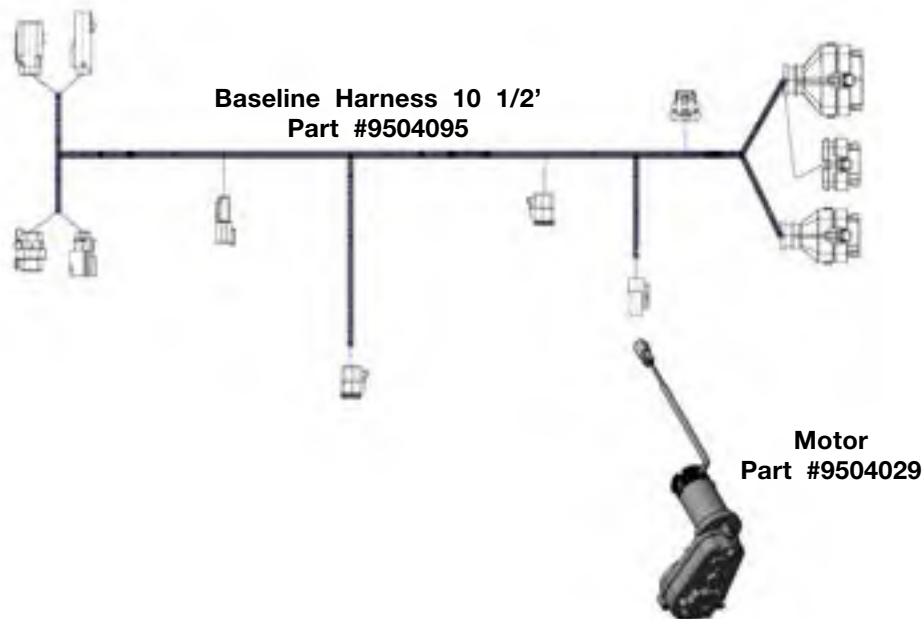

FIG. 2-42
1. Attach the baseline harness (9504095) to the motor (9504029). (FIG. 2-42)